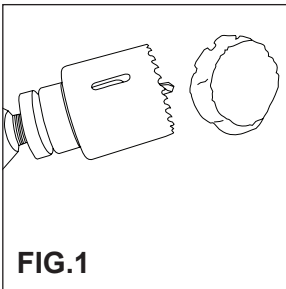

FIG. 1
- i.) Using a 2" (51 mm) hole saw, make an opening on each side of the wall ensuring that the holes are aligned (See Fig. 1).